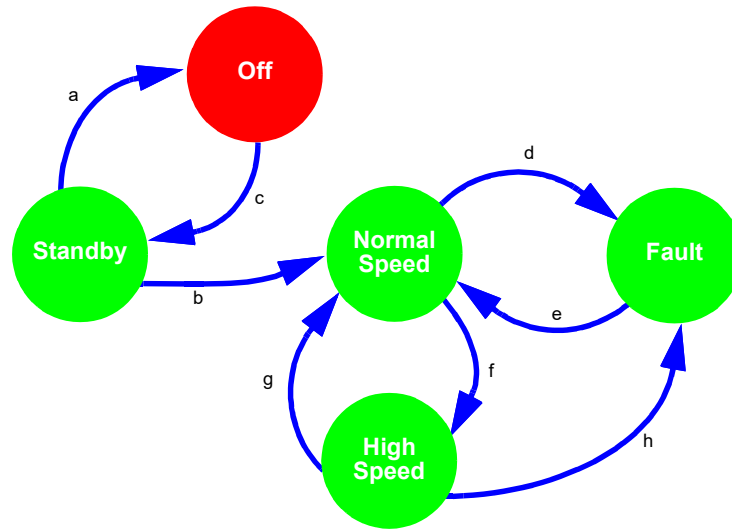
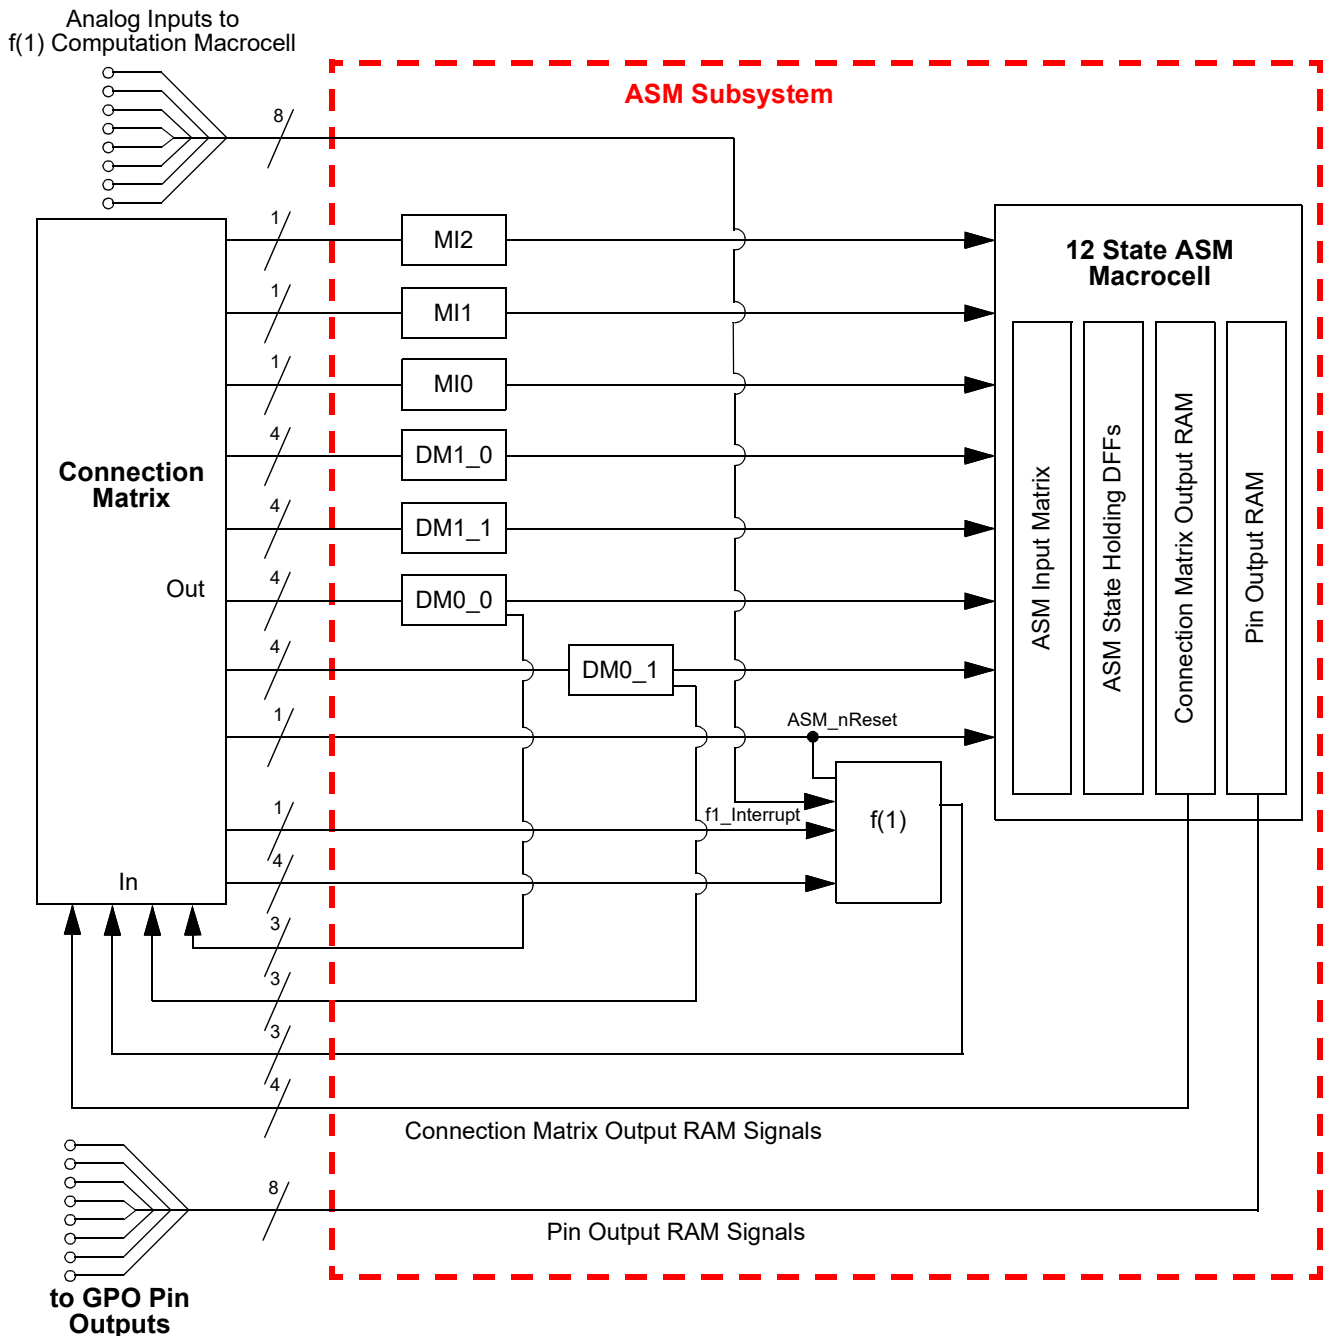

Figure 88: Asynchronous State Machine State Transitions
Figure 89: Connection Matrix to ASM Subsystem
The Asynchronous State Machine (ASM) Subsystem is designed to allow the user to create state machines with between 2 to 12 states. The user has flexibility to define the available states, the available state transitions, and the input signals (a, b, c ...) that will cause transitions from one state to another state, as shown in Figure 88.
- Dynamic Memory (DM) Macrocells – Section 16.
- f(1) Computation Macrocell – Section 17.
- Matrix Interface (MI) Macrocells Section 18.
The ASM Subsystem has a total of 25 digital input signal lines, as shown in Figure 89, which all come from the Connection Matrix outputs. Of these 25 digital input signals, 3 are user selectable inputs going directly from the Connection Matrix to the three Matrix Interface (MI) macrocells. There are a total of 16 input signals that go to the DMx\_x macrocell, four per macrocell. There is 1 ASM\_nReset input that is for driving a state transition in both the ASM macrocell and the f(1) Computation Macrocell to an Initial/Reset state. It is possible to use one macrocell only (MI or DM) for state to state transitions. There are 4 digital input signals coming from the Connection Matrix to the f(1) Computation Macrocell. There is also 1 dedicated Interrupt input signal to the f(1) Computation Macrocell that will halt any active operations and transfer control back to the ASM macrocell.
The ASM Subsystem has a total of 21 digital output signal lines, as shown in Figure 89. There are a total of 4 output signals which go to the Connections Matrix inputs, and from there can be routed to other internal macrocells or pins. The 4 outputs are user defined for each of the possible 12 states. There are a total of 8 output signals which go directly to the 8 GPOs. The 8 outputs are user defined for each of the possible 12 states. Each of the three macrocells, DM0\_0, DM0\_1 and f(1) have three output signals that go to the Connection Matrix.
The GPAK Designer development tools support user designs for the ASM Subsystem at both the physical level and logic level. Figure 88 is a representation of the user design at the logical level, and Figure 89 shows the physical resources inside the various macrocells in the ASM Subsystem. To best utilize this subsystem, the user must develop a logical representation of their desired state machine, as well as a physical mapping of the input and outputs required for the desired functionality.